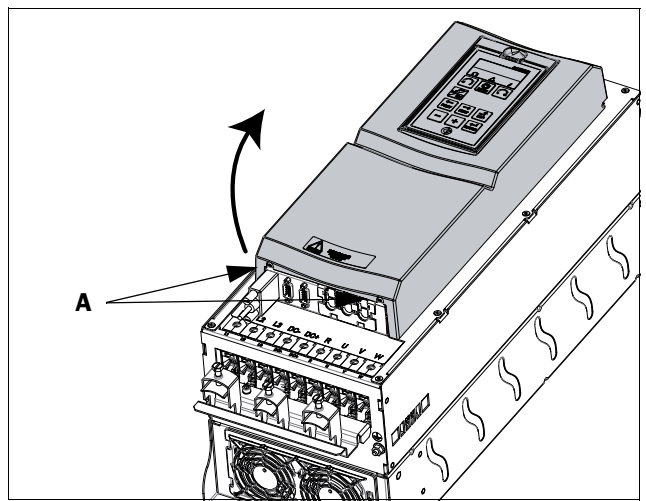

Fig. 22 Remove the front cover on frame size C2 - F2 (principle drawing).
- Loosen the two screws A (see Fig. 22) at the bottom of the cover a couple of turns (you do not have to remove the screws).